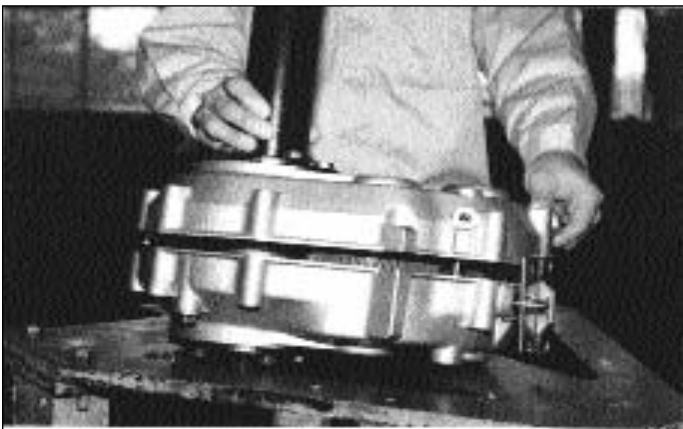
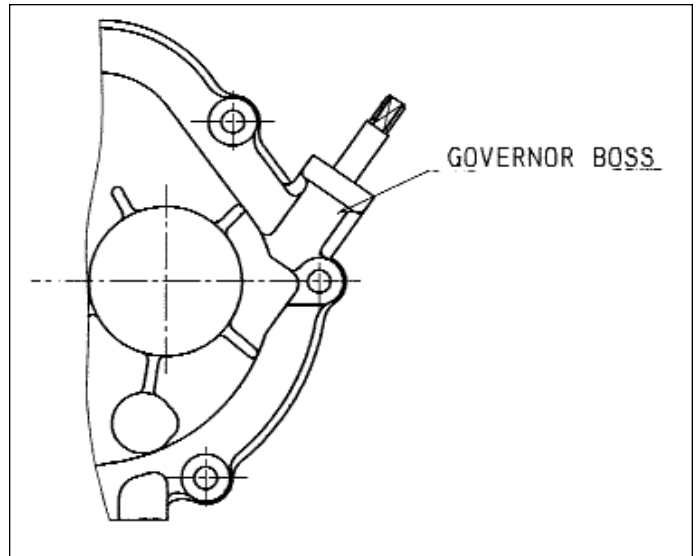

Figure 23 - Split Case
Figure 24 - Governor
5. Remove the right (top) case half by grasping the axle housing and gently tapping governor boss with a plastic mallet. See Figure 24. **Do not** pry cases apart with screw drivers as damage to gear case gasket surfaces will result. See Figure 23.